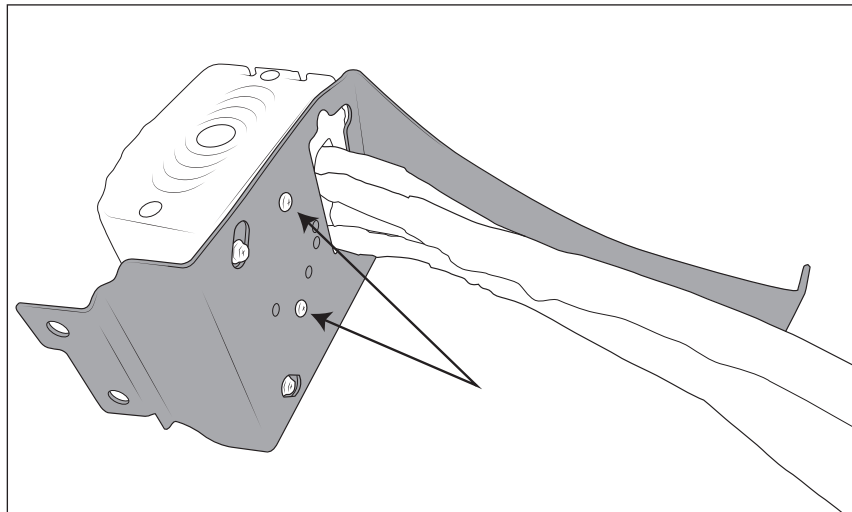

Figure 9
1. Assemble Come Up controller onto the AEV Controller Bracket with existing screws (fig. 9).